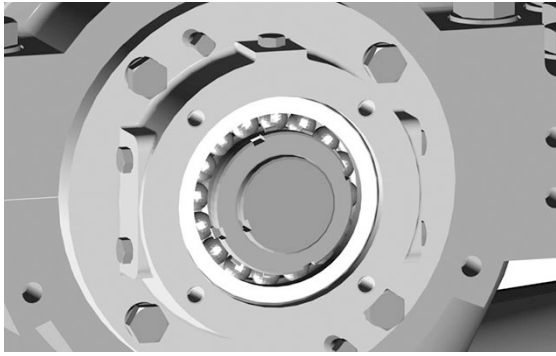

Figure 34: Locknut and lockwasher installation on outboard (opposite of coupling) side
13. Install the locknut and lockwasher on the outboard end of the shaft. Make certain that the locknut is secure and bend over the tabs on the lockwasher. (see Figure 34)